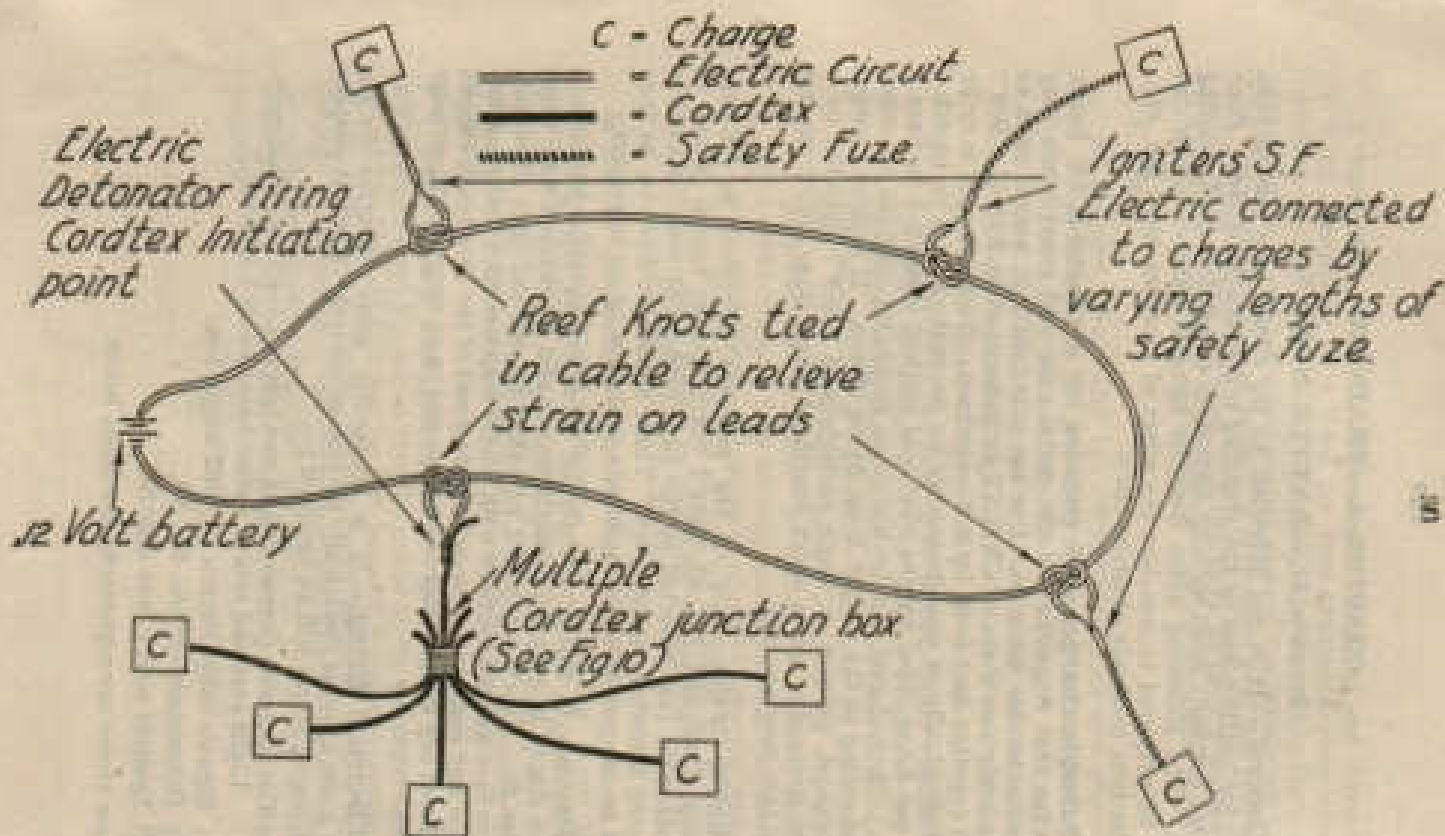

Fig 20. Diagrammatic layout of electrical circuit for battle noises
6. Detonator electric No. 33.—This consists of a No. 17 detonator (see Sec 5) with an electric firing head on the top. When an electric current of sufficient strength is passed through the head a flash occurs which fires the detonator. A fully charged battery will produce sufficient current to fire a certain number of detonators connected in series with the battery through a given length of cable. The term "in series" means that the detonators are connected up by lengths of cable, the circuit starting at one terminal of the battery, passing through each detonator in turn and finishing at the other terminal (see Fig 20). Table 3 shows the number of No. 33 detonators or igniters which can be fired by standard 6- and 12-volt batteries through different lengths of cable, assuming batteries FULLY CHARGED.